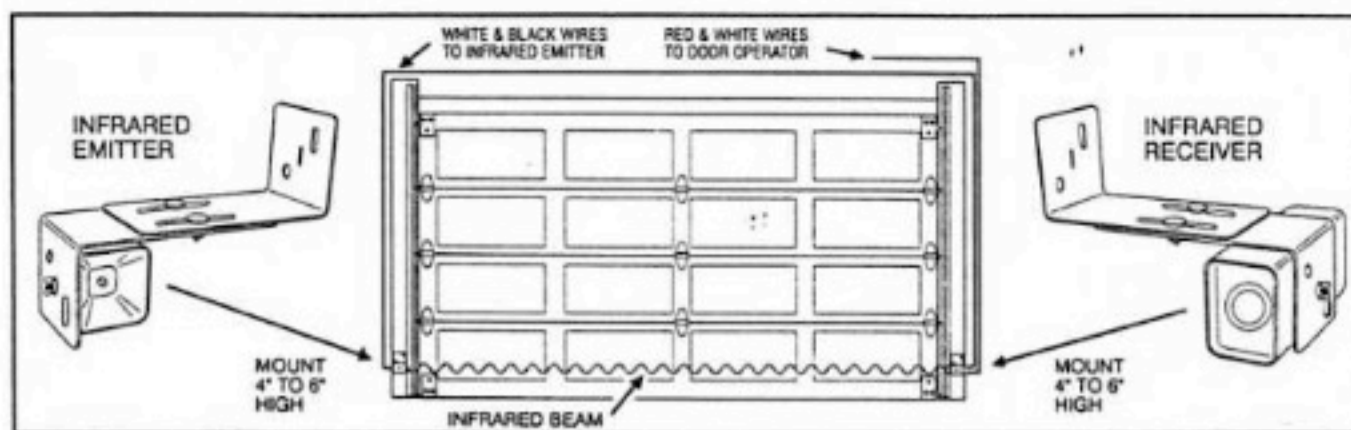
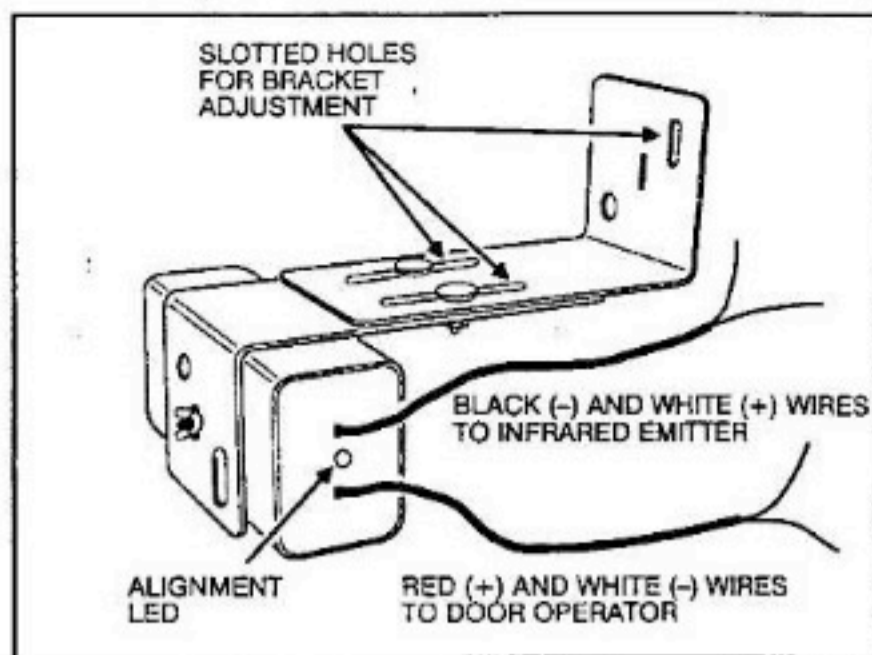

FIGURE 1
FIGURE 2
1. Determine center line of door and mark a line on the wall over the door and the top edge of the door. See figure 1.
Step B: Install emitter and detector inside garage on each side of garage door. Sensors must be positioned at the same height (approximately 4" to 6" above the floor). Directional arrows on the sensor labels must point toward each other and be horizontal to the floor. (See Figures 1 and 2).
Step C: For each bracket assembly, drill two 3/16" pilot holes into the wall centered in each slot. Fasten brackets to walls with two lag screws through slotted holes. Position bracket to be square with the floor. Tighten both lag screws. For each bracket assembly, attach mating bracket using the carriage bolts and nuts, as in Figure 1. Do not completely tighten nuts yet. Position emitter in bracket as shown in Figure 2. Fasten emitter to bracket with wing nut on stud. Do the same with receiver.
Step D: Run the white and black wires attached to the detector up and over the door to the terminals on the emitter. Attach wires to emitter terminals by color as shown on label. (See Figure 1) Use insulated staples to fasten wires to walls surrounding garage door.